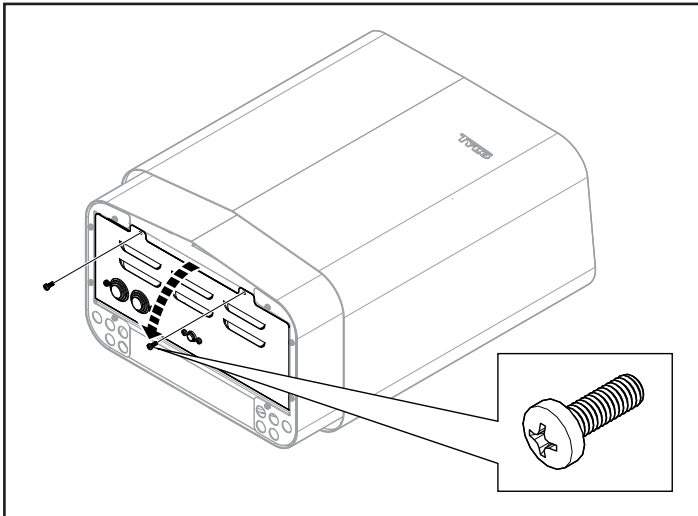

Figure 9: Opening/closing the cover
2. Undo the screws and open the cover (see Figure 9).
5. Close the cover and tighten the screws (see Figure 9).